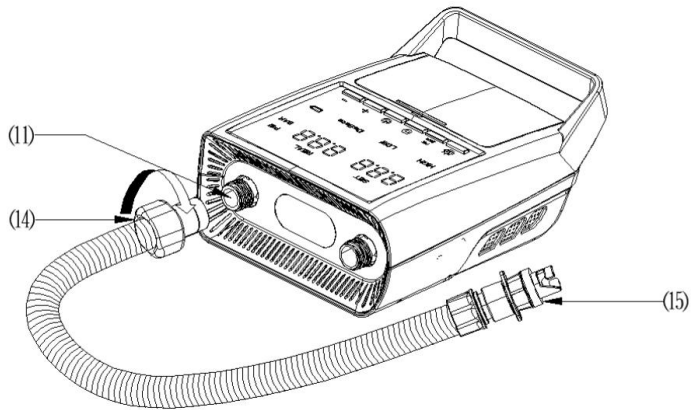
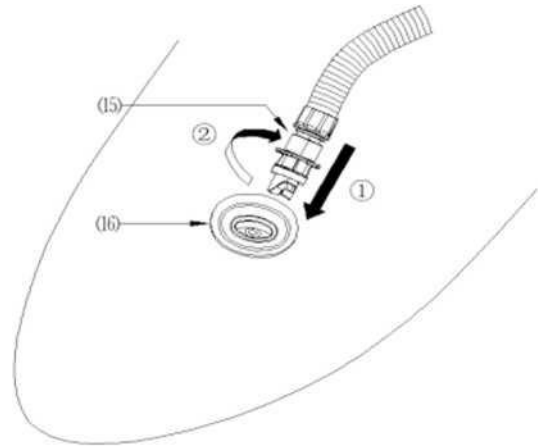

Figure 1-1
Figure 1-2
- 1.Connect one end of the hose connector (14) to the air pump charging port (11), and tighten it clockwise, as shown in Figure 1-1
- 2.Insert the other end of the hose (15) into the support nozzle (16) of the airbag (step ① in Figure 1-1), tighten it clockwise, then insert it into the airbag inflation valve, and tighten it clockwise (step ② in Figure 1-2).